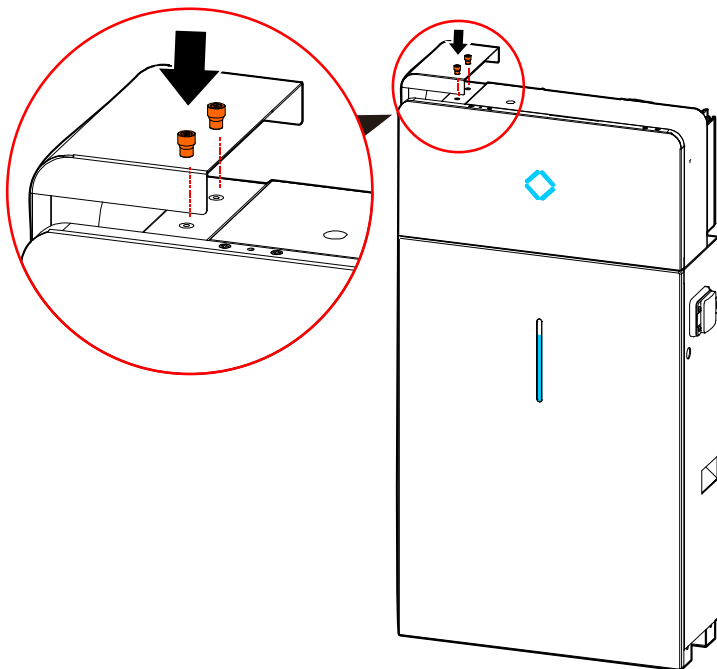

Figure3-45 Tighten the wiring cover plate
Step 2 lock the screw M4 on wiring cover plate, as shown in Figure3-45.